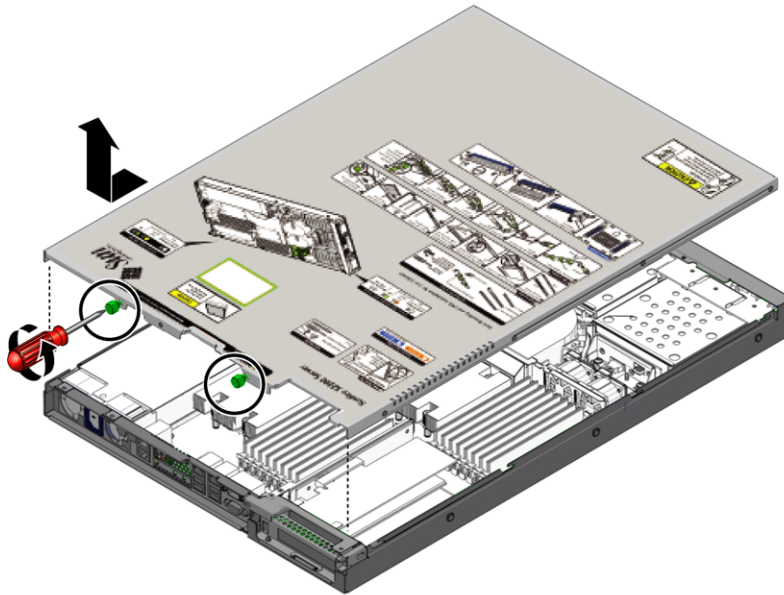

FIGURE 4-1 Removing the Server Cover
6. Loosen the two captive screws securing the cover to the chassis (see FIGURE 4-1).